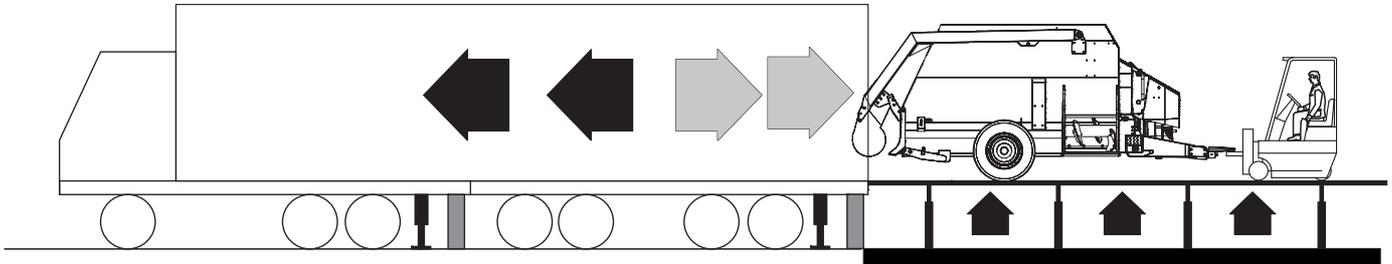

fig.1
Connect the machine to a forklift truck or a tractor and tow it to the elevator platform: lift the platform until it is aligned with the truck bed (fig.1).
Slowly push the wagon inside the truck (black arrow in fig.1) and secure it as shown in **section 4.1, items 11 and 12.**
Climb on the elevator platform with a forklift truck or a tractor and lift the platform until it is parallel with the truck bed. Remove the 4 fastening ropes and the wheel wedges. Hook the wagon to the forklift truck or tractor and drag it out of the truck and onto the platform (grey arrows in fig.1).